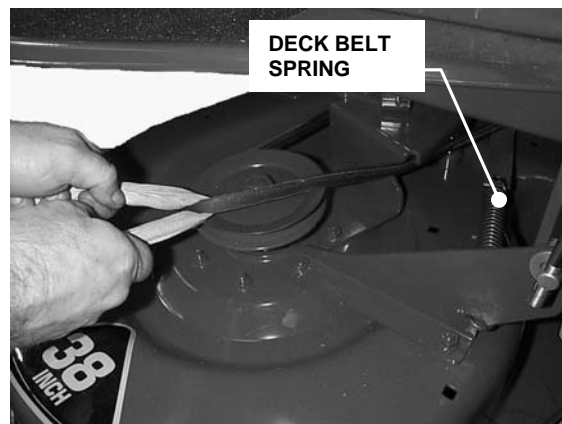

FIGURE 4.8
5. Wrap heavy rag around belt behind left spindle pulley as shown in Figure 4.8.
8. Route belt off of jackshaft pulley, idler pulley and right spindle pulley. Remove deck belt spring. Remove belt. See Figure 4.8.